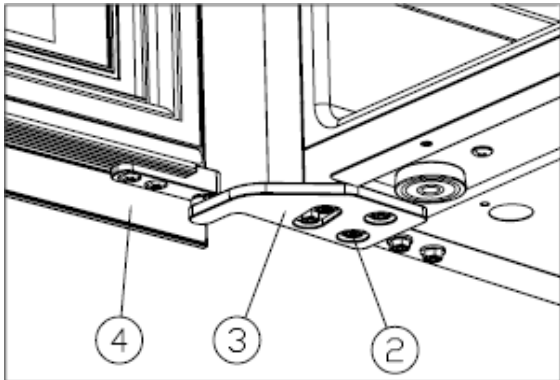

Figure 5
- ✧ Install the right upper hinge ③, and screw tight the M5\*16 screws②. [Figure 5]